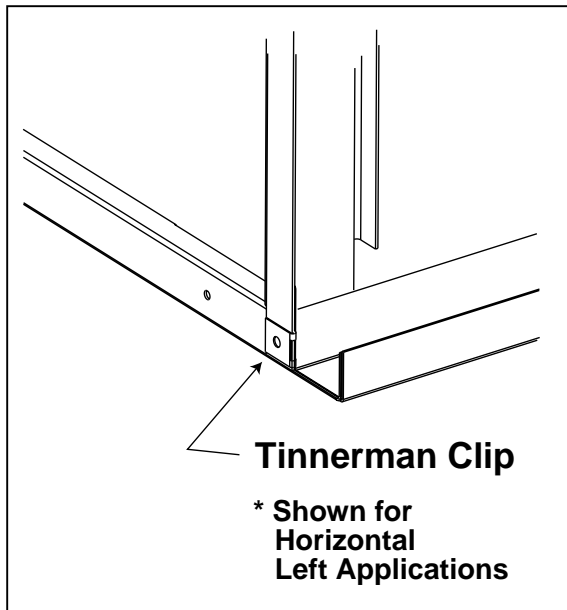

Figure 3.
- d. Where the rivet/nut was removed, reattach the cabinet tie to the cabinet rail by sliding the Tinnerman clip over the two pieces of sheet metal, clipping them together, seating the clip threads and aligning them with the two holes. (See Figure 3.)